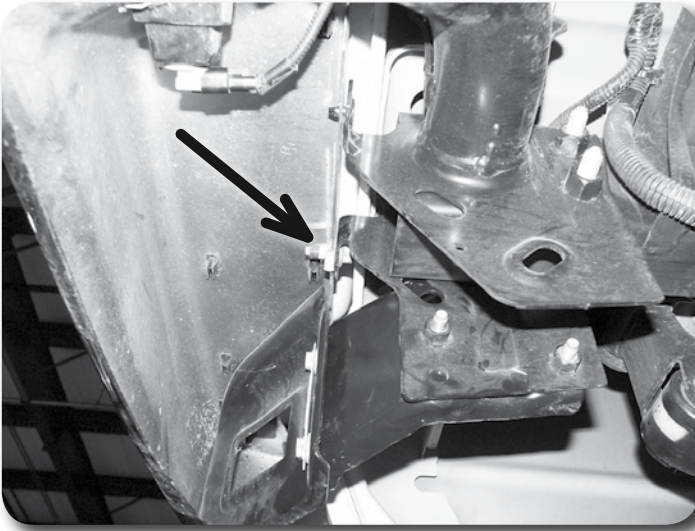

Figure 29
78. Remove the two (one per side) bolts mounting the top lip of the bumper to the frame **Figure 29**. Save bolts.